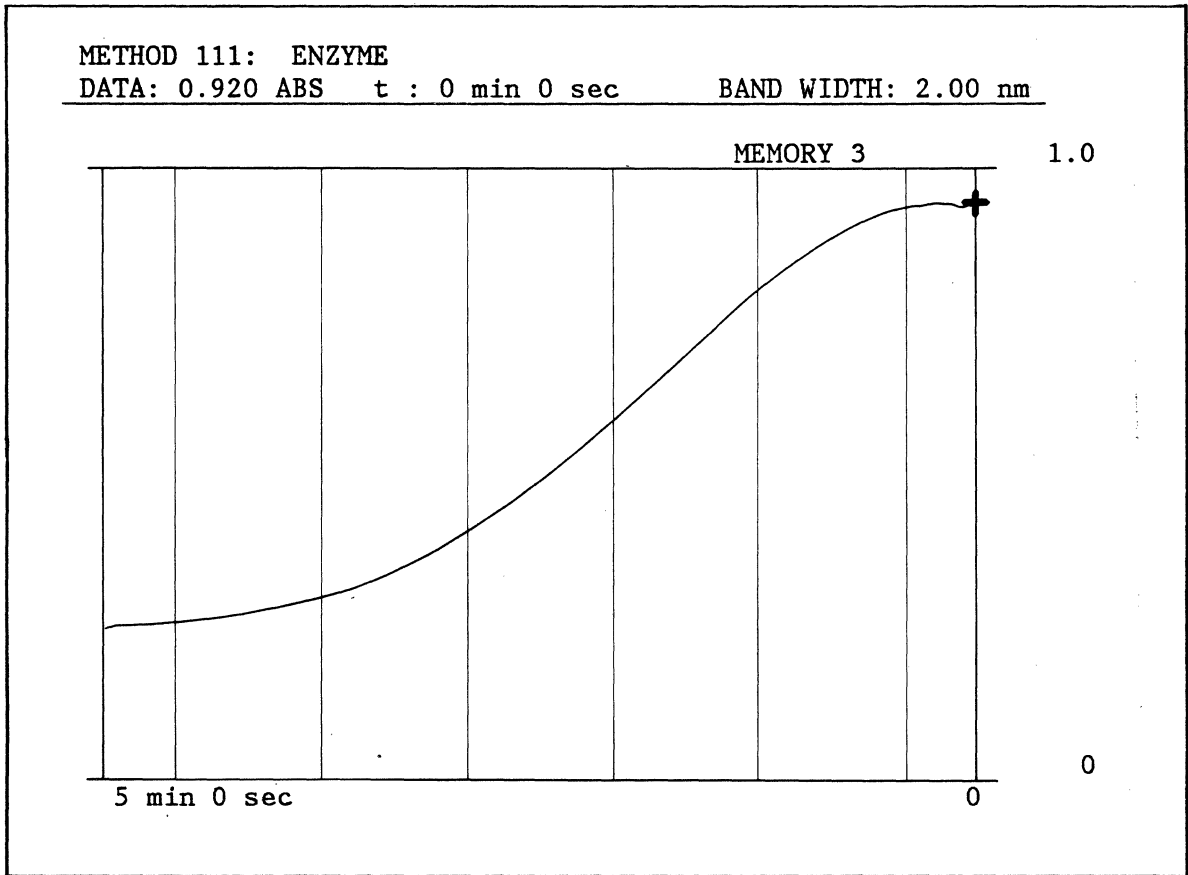

Figure 5-6. Method 111 Display of Stored Plot.
- 3)  $K < 0$ : The Sampling Number selected is 'too large. The program ignores the excess and displays as many ordinates as there is available space, as shown in Figure 5-6.